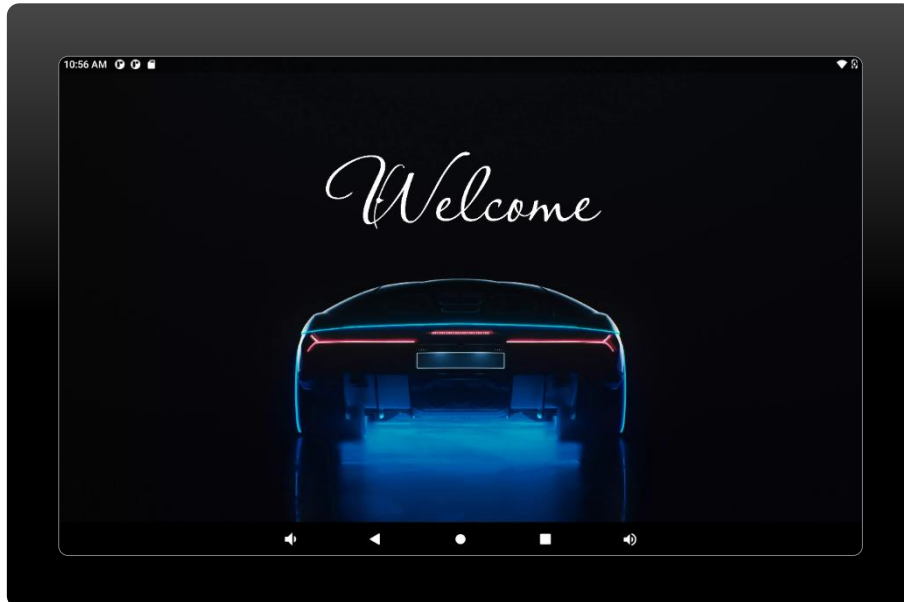

Figure 1 Welcome Screen.
- After properly booting up the system, the welcome screen will appear on the screen. (Figure 1)